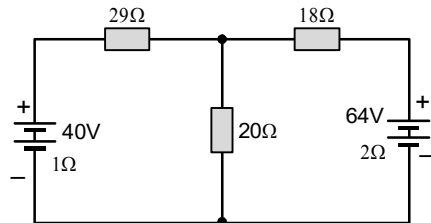

Fig.1.78: Given network
2. Determine the branch currents by superposition theorem in the network shown in fig.1.78.